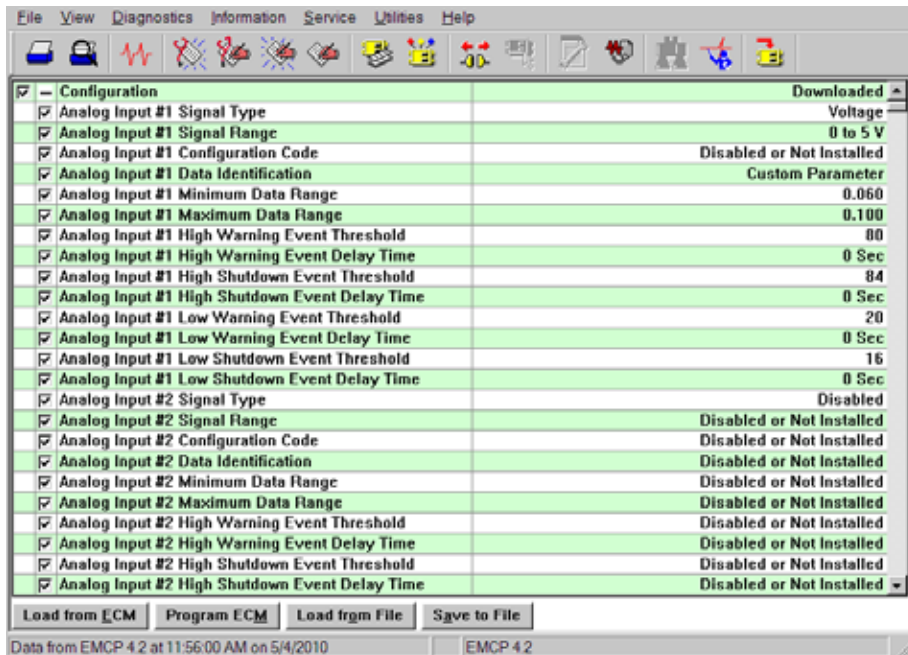

Figure 15.3 – ECM Replacement File Parameters
5. After the software loads the data, the replacement file parameters will be shown. See Figure 15.3.